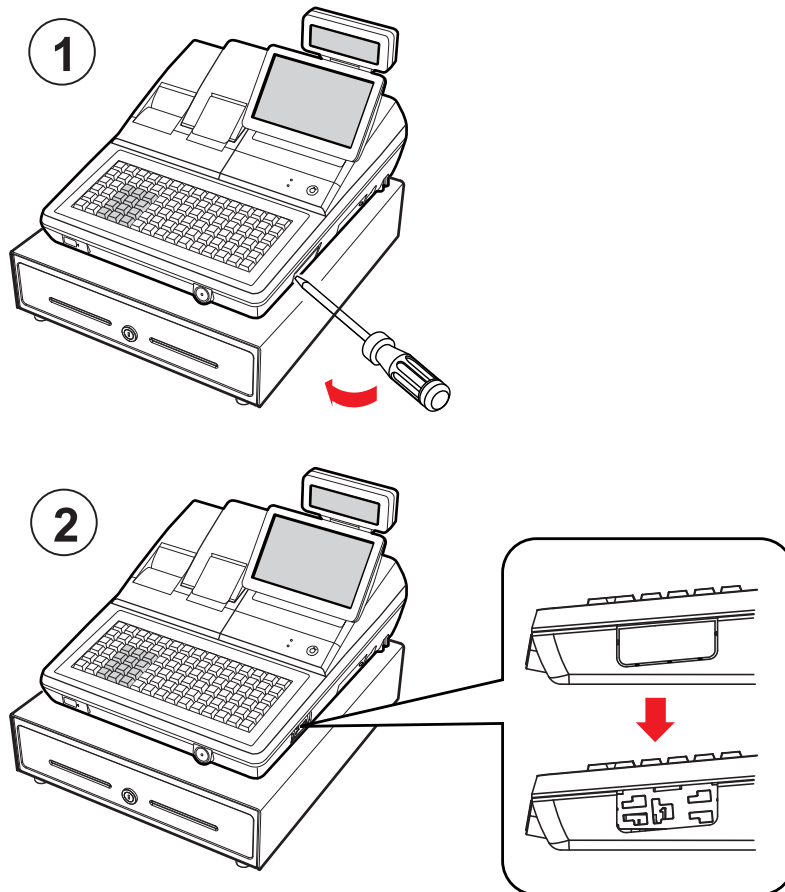

Figure 3-3 MSR Installation (1)
1. Cut off the area (MSR assembly area) shown in the Figure 3-3-① by using a (-) shaped screw driver.
2. Figure 3-3-② shows the difference before and after.